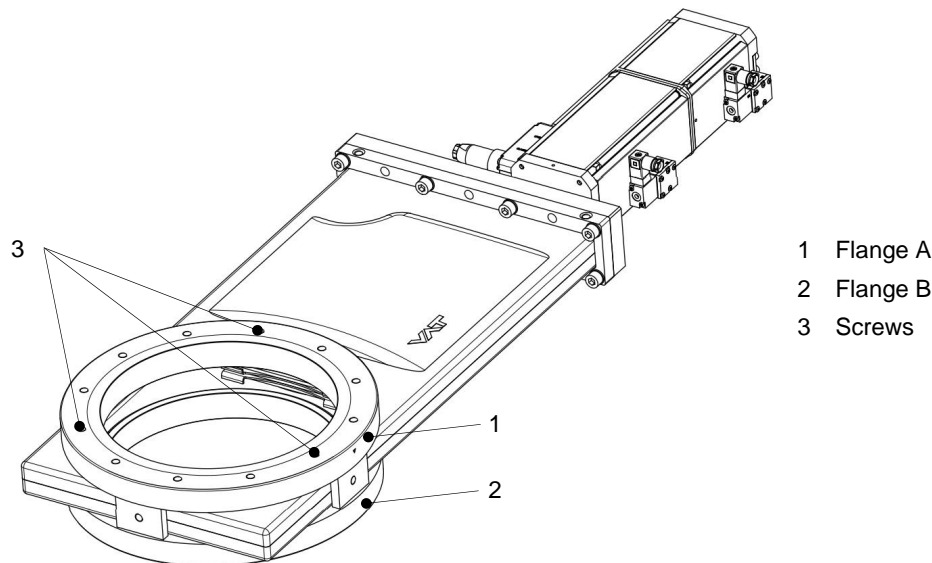

Figure 4-2
- Clean sealing surfaces and seals of both flanges; see (1) and (2) according to «Figure 4-2» on page 11.
- Mount the four screws (3) according to «Figure 4-2» on page 11, evenly in crosswise order until the seal touches the sealing surface.